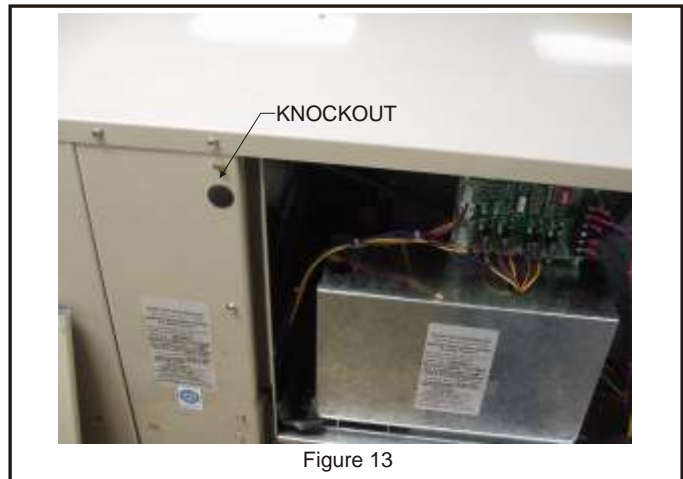

Figure 13
12. Connect line voltage power to ERS unit from ERS field provided or rooftop unit disconnect switch (disconnect must be properly sized). Then connect line voltage from disconnect switch through ERS knockout on middle post to control box per the wiring diagram. See **Figure 13** and **14**.